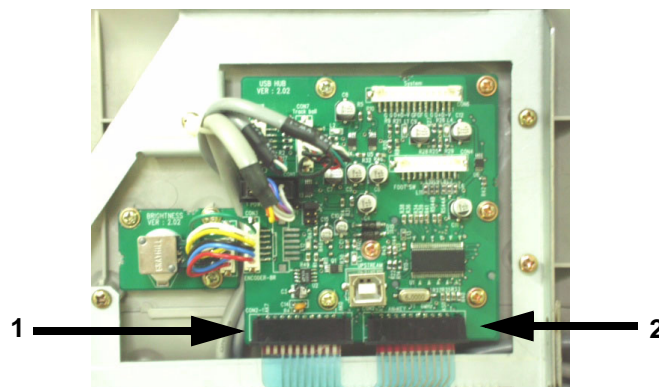

Figure 8-34 Disconnecting 2 connectors
- 2.) Disconnect two(2) connectors (1-2) from the HUB Board. Refer to Figure 8-34.